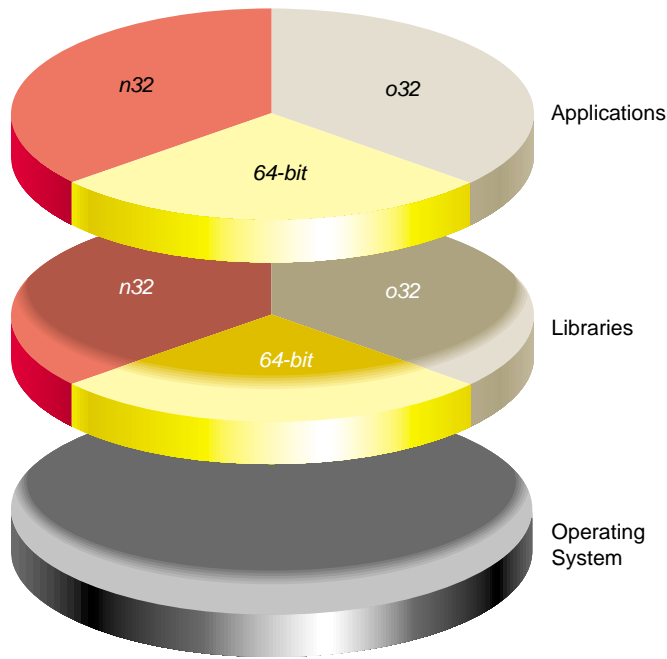

Figure 1-1 ABIs supported by IRIX 6.x
- The first section introduces the 64-bit ABI and describes the compatibility of old IRIX 5.x programs with IRIX 6.x (see Figure 1-1).
Figure 1-1 illustrates the ABIs supported by IRIX 6.x.
- You **cannot** mix objects and DSOs produced by the 32-bit compilers with objects and DSOs produced by the 64-bit compilers. In Figure 1-1, this is illustrated by the lines separating the 32-bit, N32 and 64-bit libraries. Therefore, the following rules apply: